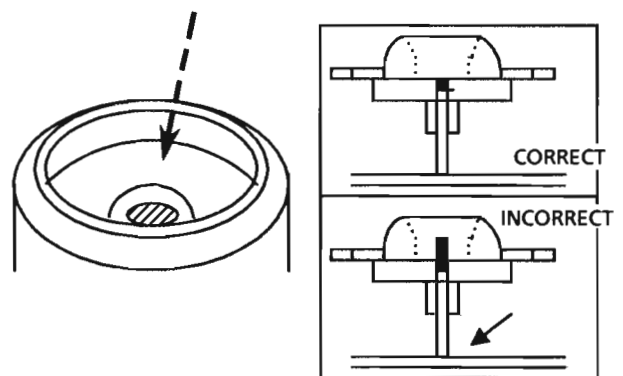

Fig 13
4. After inserting the turntable, bond the motor shaft and turntable together (at the section marked by an arrow in fig 13 on the left below).
5. Use "LOCKTITE" #460 bonding agent, and apply as little as possible. Take care not to allow any excess bonding agent to get onto the turntable. Be extremely careful not to allow bonding agent to adhere to the motor bearings (the section marked by an allow in fig 13 on the right).